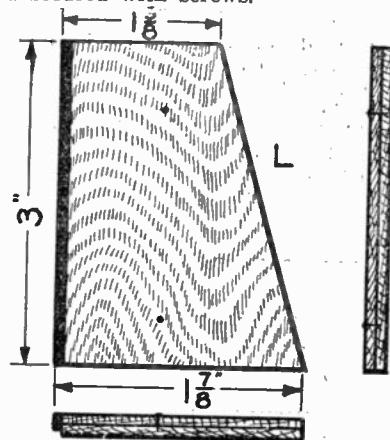
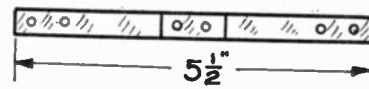
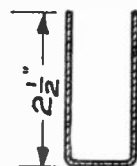

FIG 6
FIG 7
FIG 8
Cut four boards (L) of the form shown in Fig. 6 out of cigar box wood. They are about 3 inches long, 1⅛ inches wide at the bottom and 1⅜ inches wide at the top. Two of them are provided with very thin cloth which must project a little on one side. These two boards are fastened to a fork made of highly elastic brass strips or out of a piece of our clock spring (F), Figs. 7 and 8. A piece of the spring about 5½ inches long is perforated in the middle and at both ends with four holes, Fig. 7. It is bent into a U-shape, Fig. 8, which leaves each prong about 2½ inches long. The boards (L) and (L) are screwed tight to these prongs; two pins are driven through each of these boards so that they project about .1 inch from the same and are used for securing
In Fig. 8 is shown one of the springs bent up into a U-shape; each arm is attached to a rubber and the plate rotates between the rubbers.